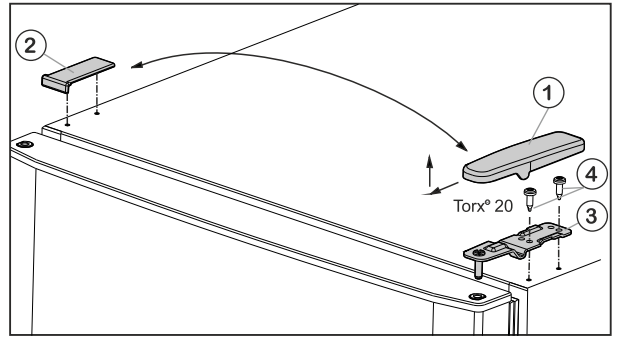

Fig. 5
- ▶ Pull off the cover Fig. 5 (1) forwards and upwards.
- ▶ Lift off the cover Fig. 5 (2).
- ▶ Unscrew the upper turn hinge Fig. 5 (3) (2 x Torx® 20) Fig. 5 (4) and lift it off.
- ▶ Insert the upper turn hinge Fig. 5 (3) in the door on the new hinge side.
- ▶ Screw in the upper bearing block **tightly (with 4 Nm)** (2 x Torx® 20) Fig. 5 (4). Use a cordless screwdriver if necessary.
- ▶ Fit the cover Fig. 5 (1) on the opposite side by sliding it rearwards and latching it into place.
- ▶ Press the cover Fig. 5 (2) on the opposite side down into place until it latches.